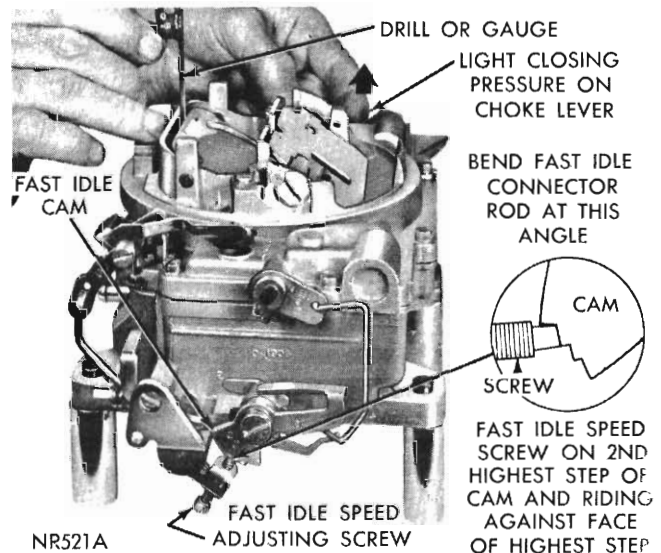

Fig. 11—Fast Idle Cam Position Adjustment
(1) With fast idle-speed adjusting screw contacting second highest speed step on fast idle cam, move choke valve toward closed position with light pressure on choke shaft lever.
(2) Insert specified drill (refer to Specifications Fast Idle Cam Position) between choke valve and wall of air horn (Fig. 11). An adjustment will be necessary if a slight drag is not obtained as the drill is being removed.
(3) To adjust, bend fast idle connector rod at angle until correct valve opening has been obtained (Fig. 11).